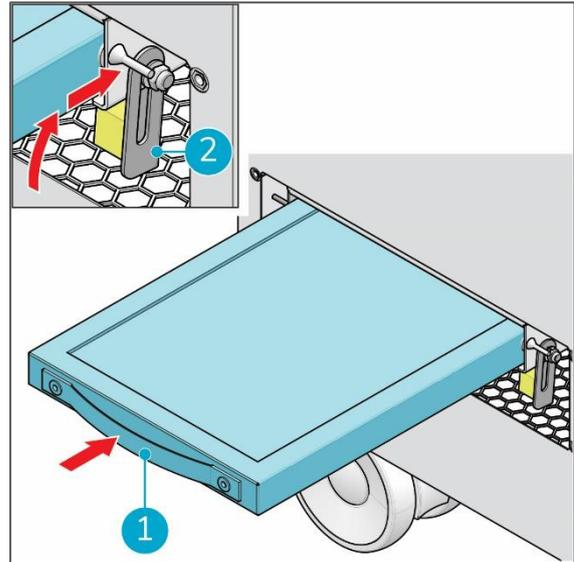

Figure 16
7. Carefully slide the new filter (Figure 16, pos. 1) into the compartment.
8. Pull the filter lock (Figure 16, pos. 2) upward and push it forward into the compartment to lock the filter.